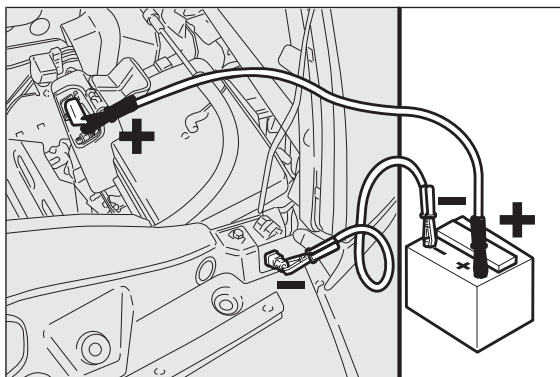

fig. 167
- ☐ use a second cable to connect the negative terminal (–) of the auxiliary battery to the earth point as shown in fig. 167;